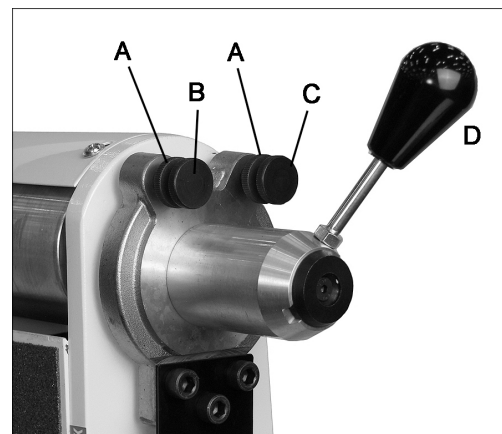

Figure 28
3. If the belt tends to track left or right of center, loosen locking nuts (A, Figure 28).
4. Turn the front screw (B, Figure 28) while turning the belt by hand and observe belt tracking. Once the belt starts to move in the desired direction, stop and turn the rear screw (C) in the same manner. *NOTE: These adjustments are sensitive and should be done in small increments.*
5. Grasp the tensioning adjustment handle (D) and start the machine. Be ready to pull down on the tension adjustment handle should the belt want to run off the belt wheel.
7. Tighten lock nuts (A) when tracking adjustments are satisfactory.
3. Release belt tension using the handle (D, Figure 28), and slide belt off the wheels.